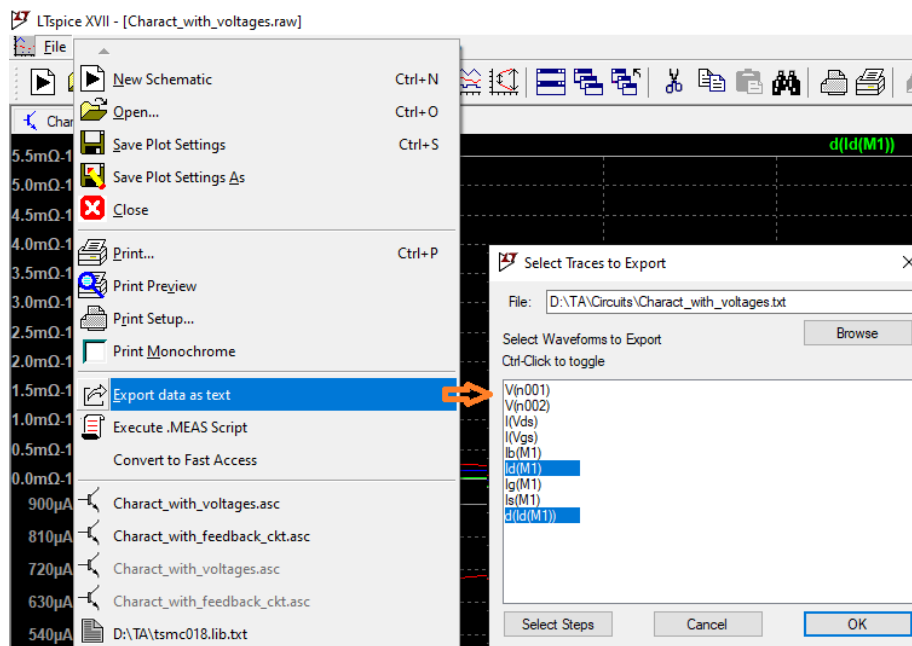

Fig 11. Exporting different plots to text file
- You can export the plot to text file and then can plot it in Matlab. Refer Fig 11